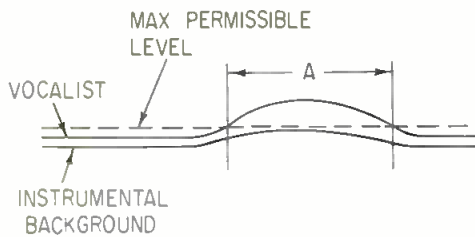

Figure 2. One problem in tape mastering is keeping the vocalist in proper perspective to the instrumental background.
One recurrent problem in tape mastering is keeping the vocalist in proper perspective to the instrumental background. Consider the typical situation pictured in *Figure 2*. Levels have been adjusted so that the vocalist remains somewhat above the instrumental background. At certain times however, the singer rises still further above the background, and the maximum safe level is exceeded, as at (A) in *Figure 2*. Now if the vocal track only is limited, it may become buried in the background at these points. Yet it may not be musically desirable to limit the entire program by x dB.